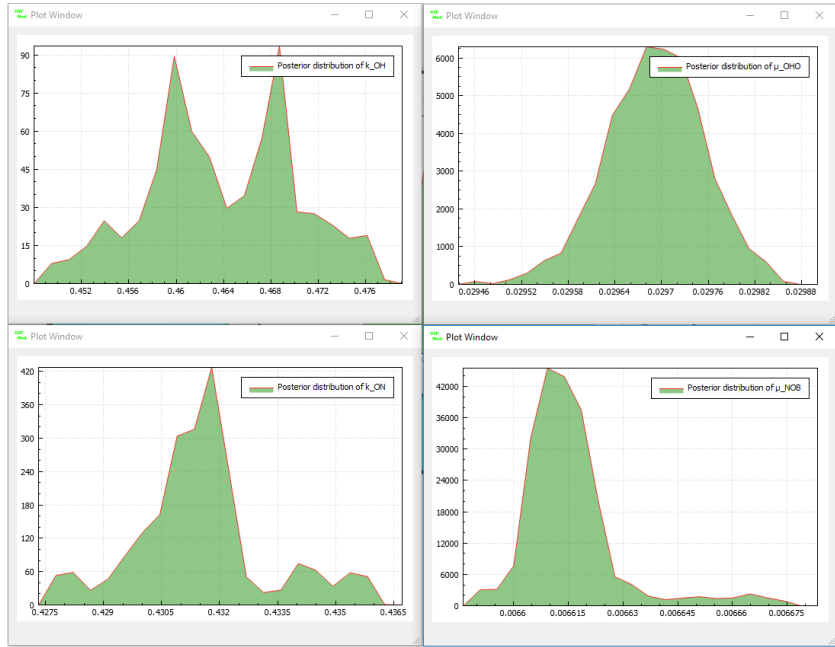
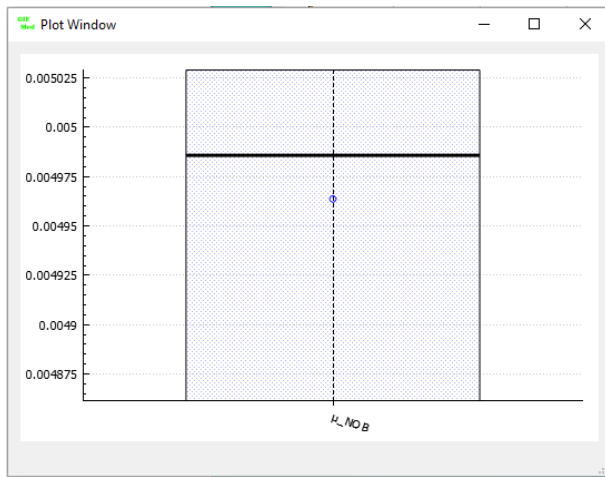

Figure 8: Posterior distribution of k_{OH} , μ_{OHO} , k_{ON} , μ_{NOB}
Figure 9: Posterior credible interval for
- From **Project Explorer**→**Inverse Modeling**→**Parameters** right-click on μ_{NOB} and select **Plot posterior distribution histogram**. A graph will appear that shows the posterior distribution of parameter μ_{NOB} (Figure 8). Similarly inspect the posterior distribution for other parameters. (Figure 9). In this figure the box plot shows the 95% credible interval for the parameter while the solid line shows the median and the dot shows the expected value of the parameter.